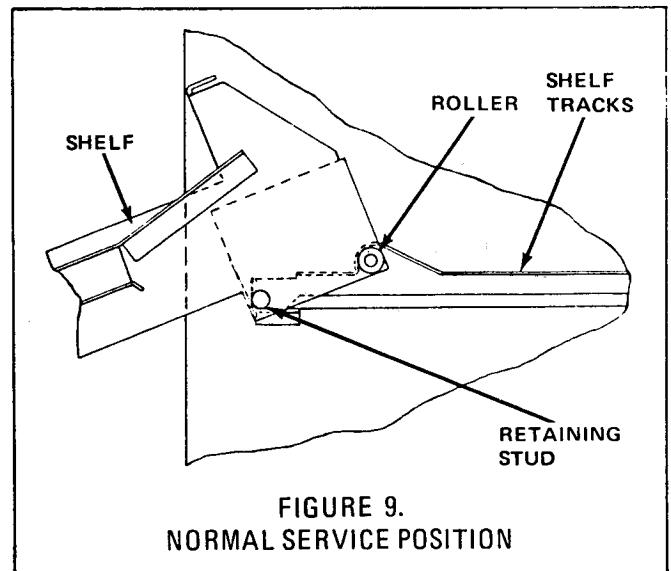

FIGURE 9.
1. Pull shelf out to normal service position. (See Figure 9.)